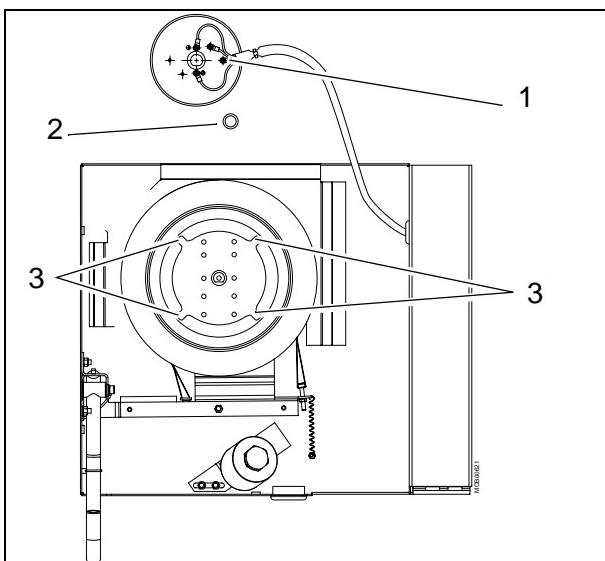

Fig. 6
- Disconnect cable from upper plate (pos. 1 / Fig. 6).
- Remove upper plate and distance ring (pos. 2 / Fig. 6).
- Remove four screws (pos. 3 / Fig. 6).